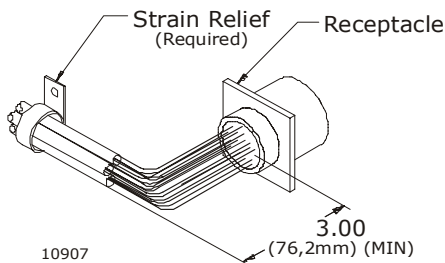

Figure 20: Receptacle Cable Strain Relief
- Strain relief is required for inside cable to ensure seal integrity. (See “Figure 20:” on page 19)
CAUTION: When installing the cable, support the cables using clamps or straps not more than 18 inches (0,5m) apart, unless contained in a conduit. Install each cable so it is protected from physical damage. Ensure cable is not under stress or strain at the Receptacle. Refer to Figure 20:, page 19.
CAUTION: When installing the cable, support the cables using clamps or straps not more than 18 inches (0,5m) apart, unless contained in a conduit. Install each cable so it is protected from physical damage. Refer to Figure 20:, page 19.